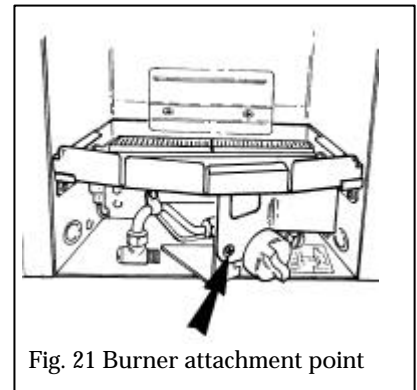

Fig. 21 Burner attachment point
### 10.2 To Remove The Complete Burner Unit (See Figure 21)
**10.2.3** Detach the burner unit from the convection box by removing 1 screw. See figure 21.